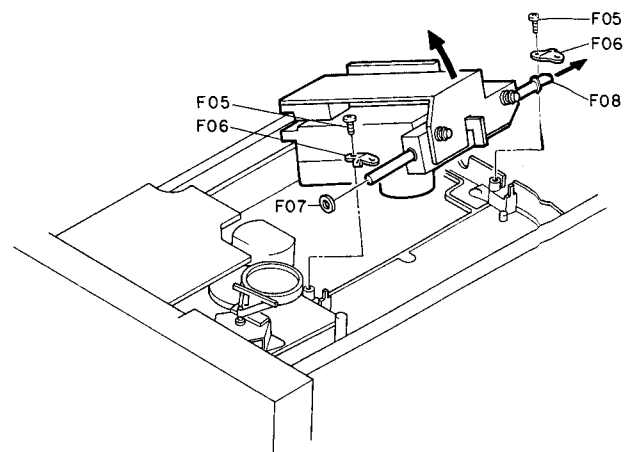

Fig. 2.3
- (4) Remove F05, F06 and F07, and pull out F08. See Fig. 2.3.